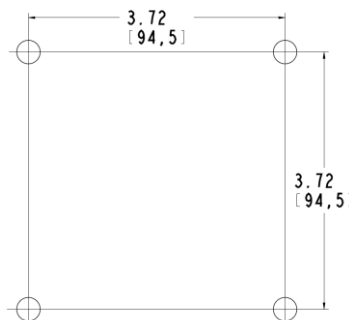

Figure 1: Required Hole Pattern for Wall Mount (HZXW01 & HZXW45)
2. Mark and drill 4 holes of the appropriate size and depth to accept 5/16" (or M8) diameter threaded fasteners (not supplied). Spacing per **Figure 1** on the next page.